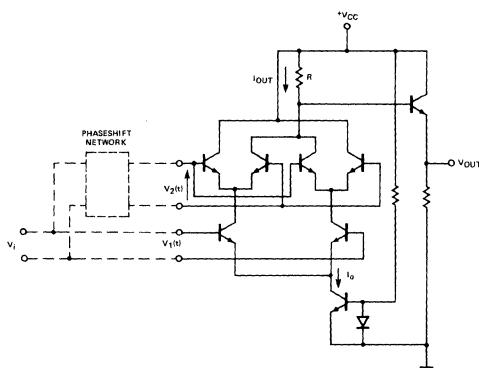

Figure 8-18
FM detection is accomplished with the balanced product detector shown in Figure 8-18. As has been pointed out in the phase detector discussions of chapter 7 the bal-
anced product detector produces an output dependent upon the phase of the two input signals. By phase shifting, with a simple LC network, one signal from the other by 90°, the carrier signal becomes non-existent and the audio modulation is recovered. For any level of the inputs V1 and V2 of Figure 8-18 the output voltage becomes
3. The required V_2 (Figure 8-18) must be supplied at pin 12 by the network.